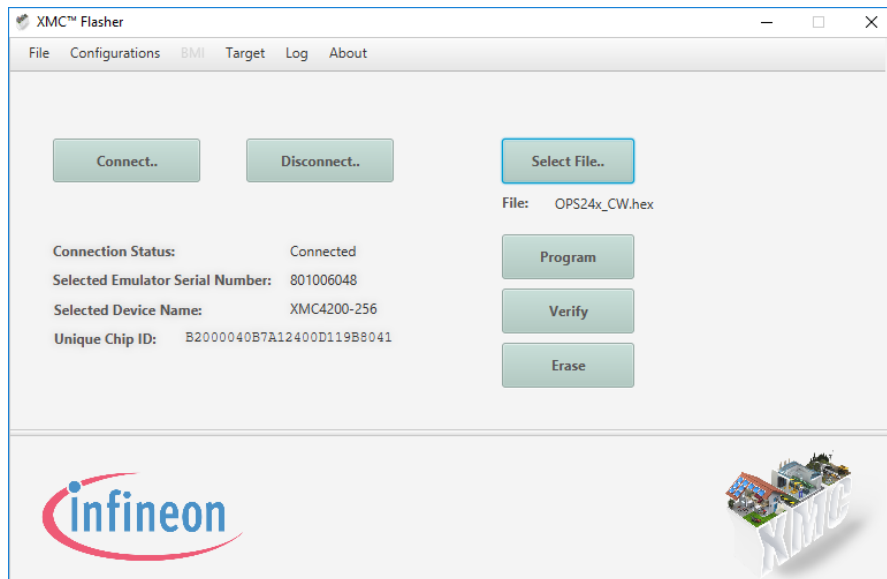

Figure 9. Hex File Selection
**Step 7.** Next, click on Select File and browse to the location of the hex file with the code to be updated on the OPS241/OPS242. The name of the file will show up under the Select File button (*Figure 9*). Contact OmniPreSense customer service to obtain the latest code version.